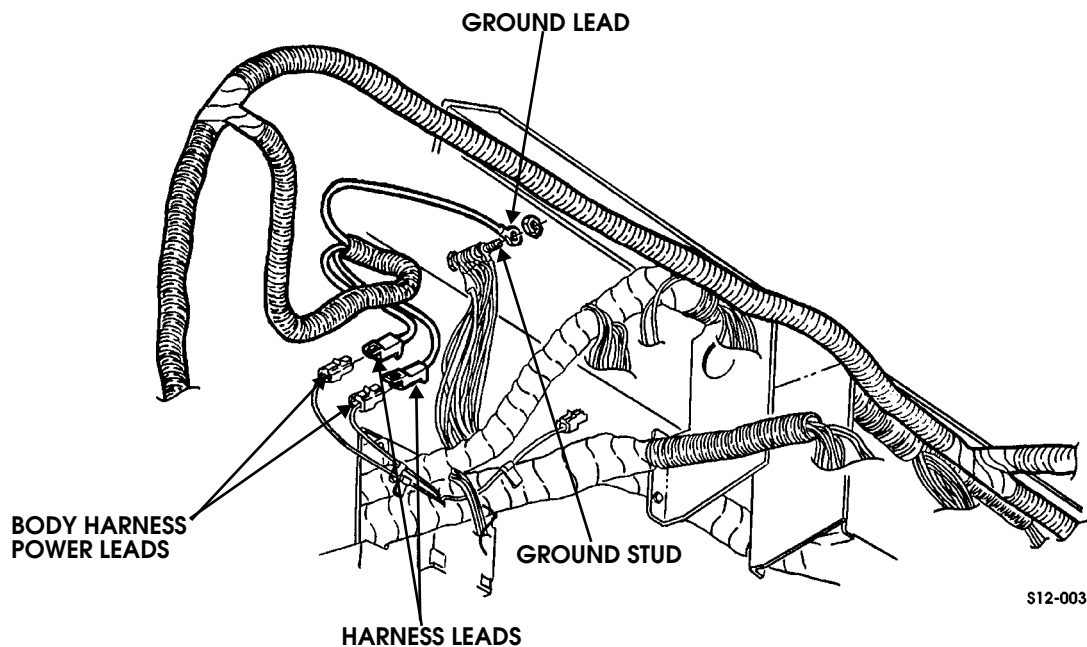

Figure 12-134: Power Windows and Door Locks Body Harness
7. Disconnect two harness leads from vehicle body harness power leads (Figure 12-134).
6. Install ground lead on ground stud with nut (Figure 12-134).